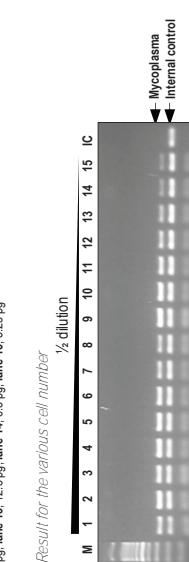

Fig.2. Mycoplasma detection was performed using the e-Mycoto™ Mycoplasma PCR Detection Kit (ver.2.0) method
- The PCR amplification efficiency varies by mycoplasma infection range. Strong mycoplasma infections are detected in as little as 10-100 cell equivalents, while weak infections require cell equivalents from the 5000-50,000 range. So, we recommend that you plan various cell numbers in preparing PCR templates from the cultured cells by using the boiling method. Please refer to Fig. 2.